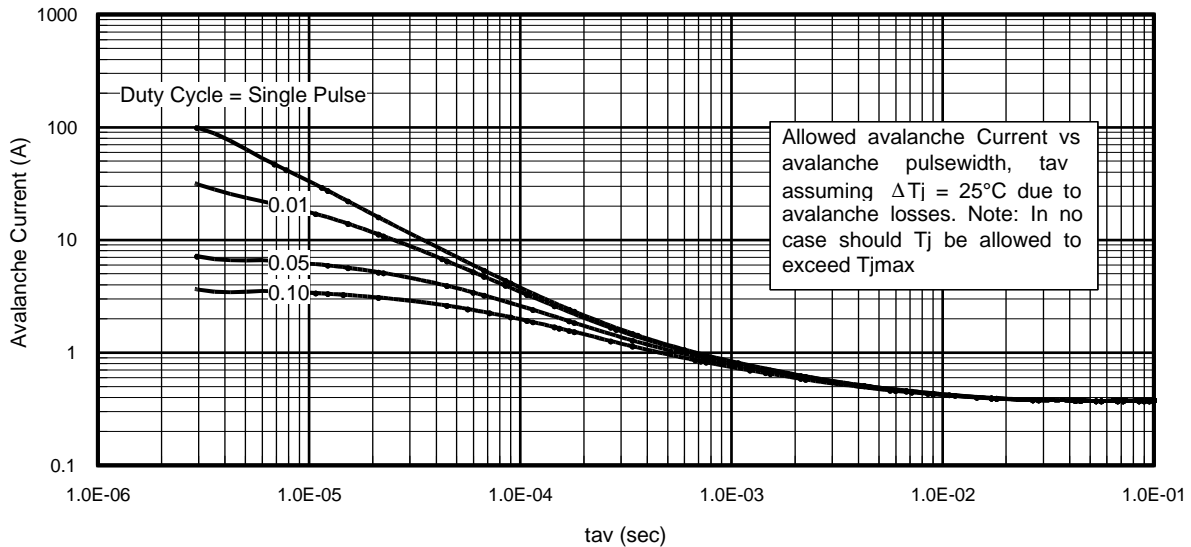

Fig 15. Typical Avalanche Current Vs. Pulsewidth
Notes on Repetitive Avalanche Curves , Figures 15, 16:
7. ΔT = Allowable rise in junction temperature, not to exceed T_{jmax} (assumed as 25°C in Figure 15, 16).